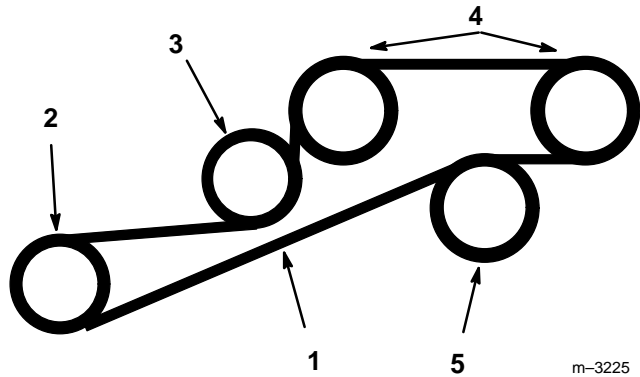

Figure 49
2. Push spring loaded idler down and remove traction belt from the engine, fixed idler and hydro pump pulleys (Fig. 49). Remove belt over clutch.
3. Install new belt over clutch and around engine, fixed idler and hydro pump pulleys (Fig. 49).
4. Push spring loaded idler down and align below traction belt. Release pressure on spring loaded idler (Fig. 49).